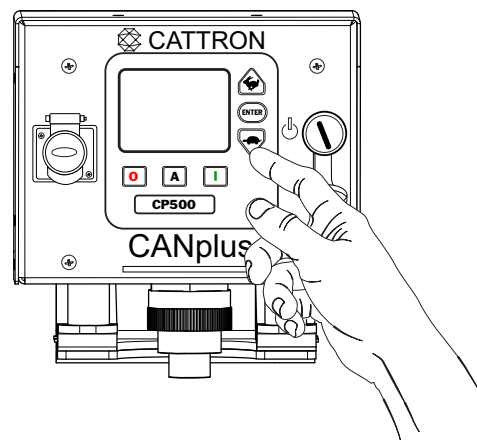

Figure 22. Decrease Engine Speed (Idle/Turtle)
1. To shut down the engine, press the **TURTLE** button (Figure 22) until the engine is running at idle. Allow the engine to cool for at least 2 minutes.